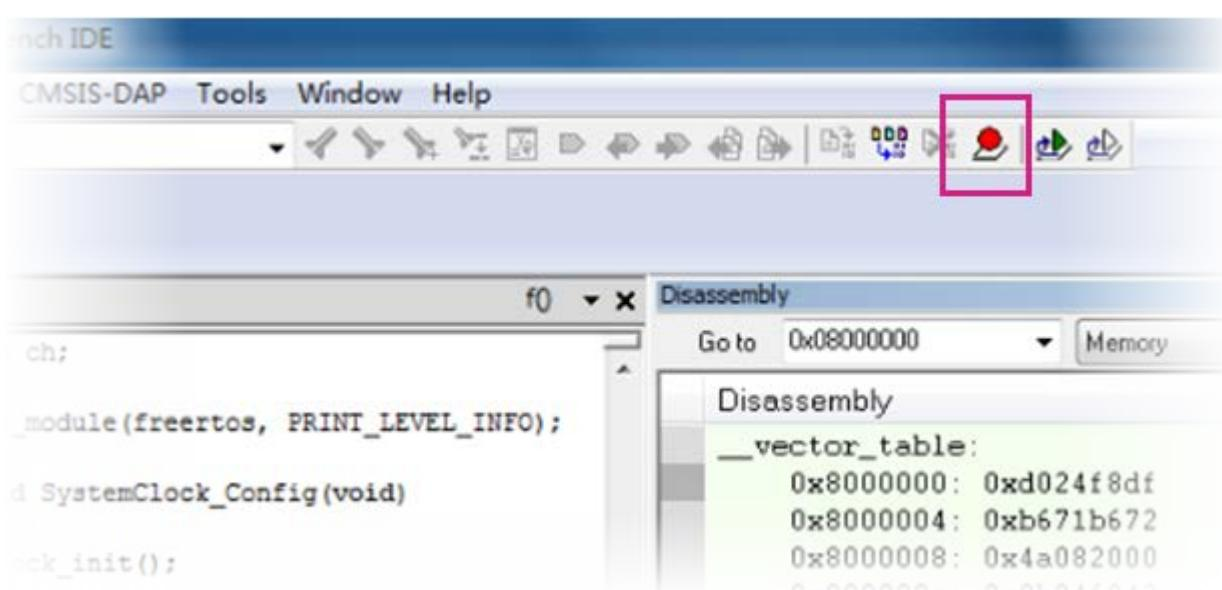

Figure 76. Debugging a project on IAR
- 6) Click **Debug** to start debugging, as shown in Figure 76.